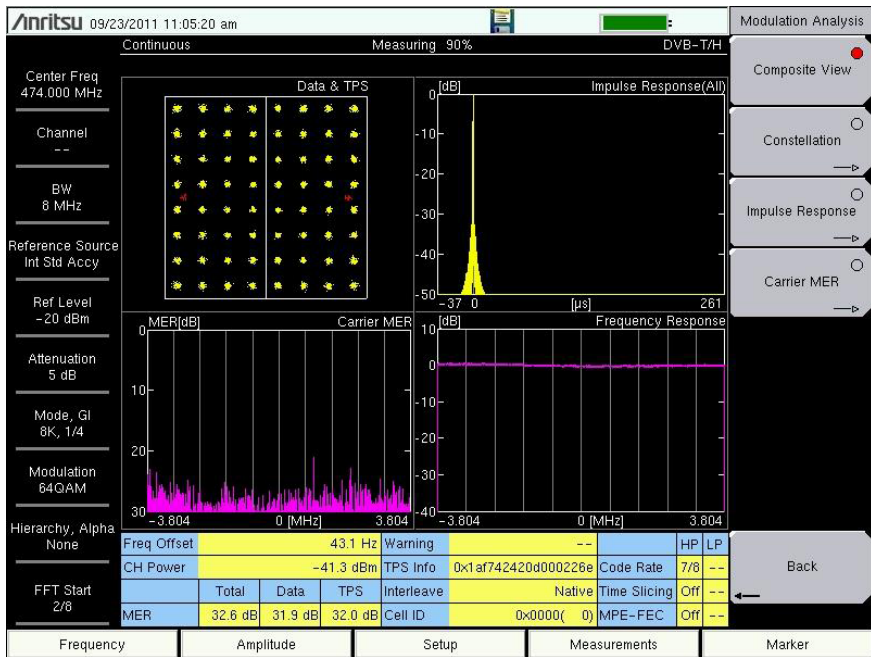
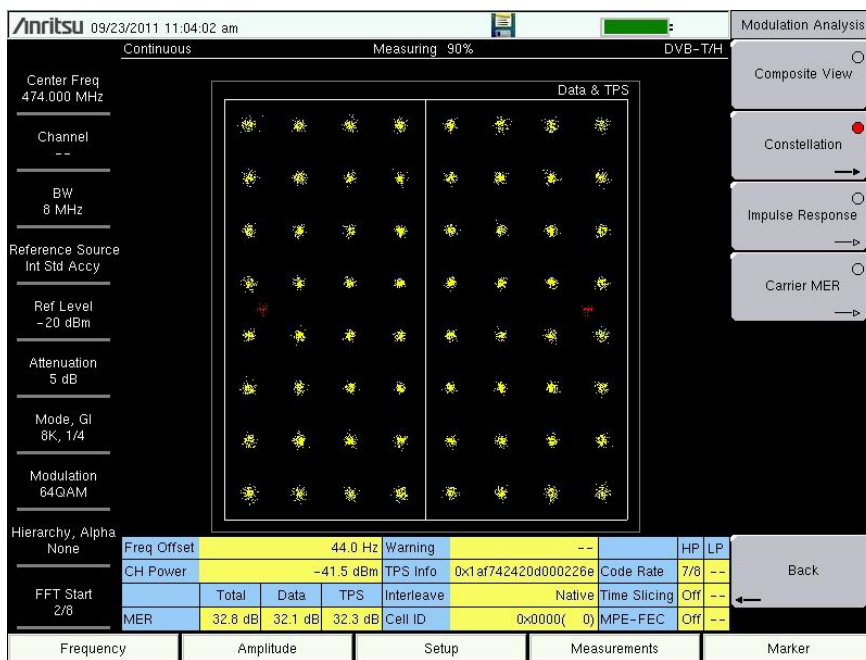

Figure 2-22. Modulation Analysis, Composite View
Figure 2-23. Modulation Analysis, Constellation View without Graph Annotation
3. Press the **Composite View** submenu key to simultaneously view 4 measurement graphs on the instrument screen. The sample images in Figure 2-22 and Figure 2-23 may differ from the actual screens on your instrument.
Below the measurement graphs, a measurement table provides specific measurement information, which includes: frequency offset, channel power, and MER (Modulation Error Ratio). This table is also displayed below each of the individual Modulation Analysis measurement displays. The table data is displayed even if the graphic display does not include the associated measurement data, as in Figure 2-23, which displays MER data in the table but does not display graphic Carrier MER data.
The Constellation measurement display is labeled DATA & TPS. The measurement table (as described in Step 3 of “Composite View” on page 2-30) is displayed below the constellation graph. The sample Constellation measurement image in Figure 2-23 may differ from the actual screen on your instrument.
3. Press the Constellation submenu key to view the Data & TPS (Constellation) measurement graph. The sample image in Figure 2-23 may differ from the actual screen on your instrument.